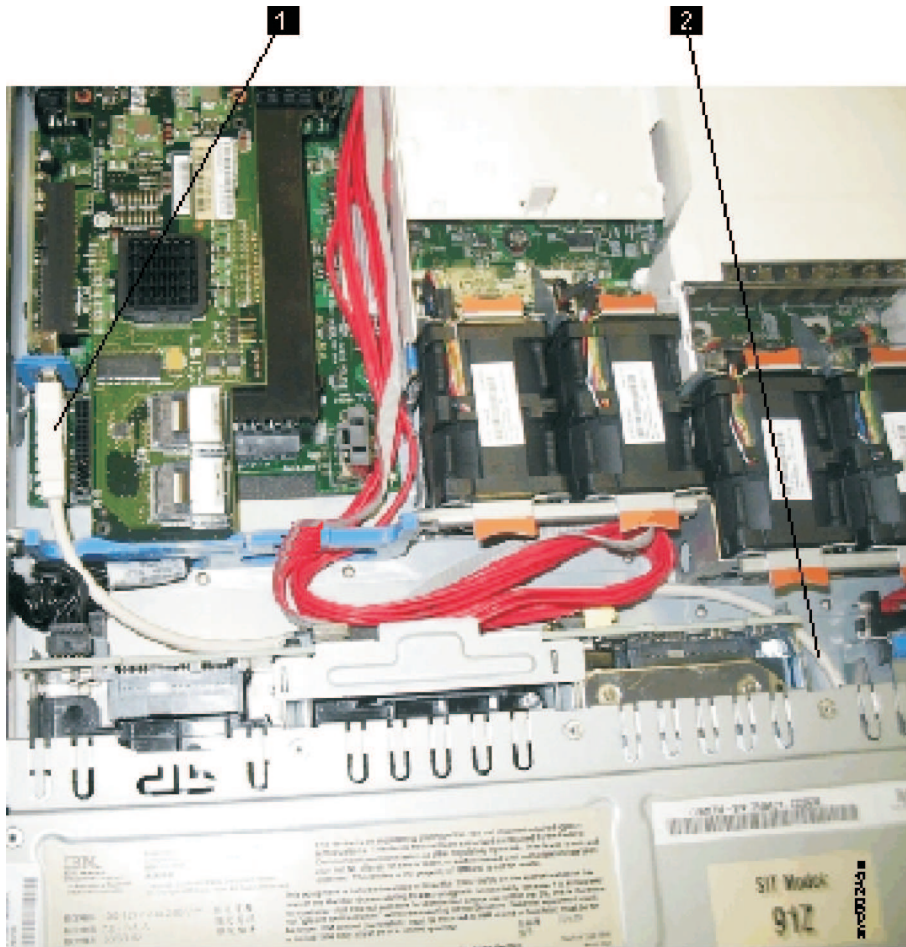

Figure 101. USB service-controller cable connected to the disk controller and USB riser card (SAN Volume Controller 2145-CF8 shown)
- b. Locate the USB connector (**1** in Figure 101 on page 123) on the left side of the SAN Volume Controller 2145-CG8 or 2145-CF8.
- a. To reinstall the cable, *carefully* thread the USB cable through disk-drive bay 5, routing the larger connector of the cable to the USB connector (**1** in Figure 101 on page 123) on the USB riser card. Route the cable beneath any red SAS cables that are attached to the disk backplane.